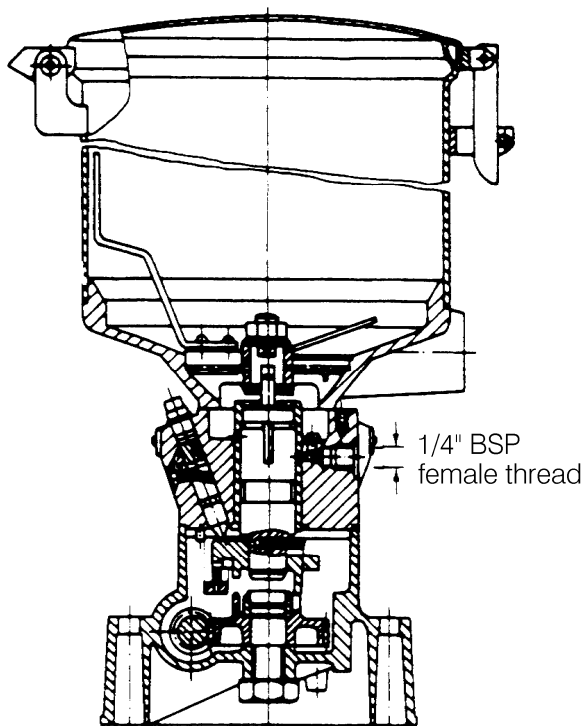

Fig. 1 Section through the pump FZ-A (6 outlets)
4. Principle of operation (figures 1 and 2)